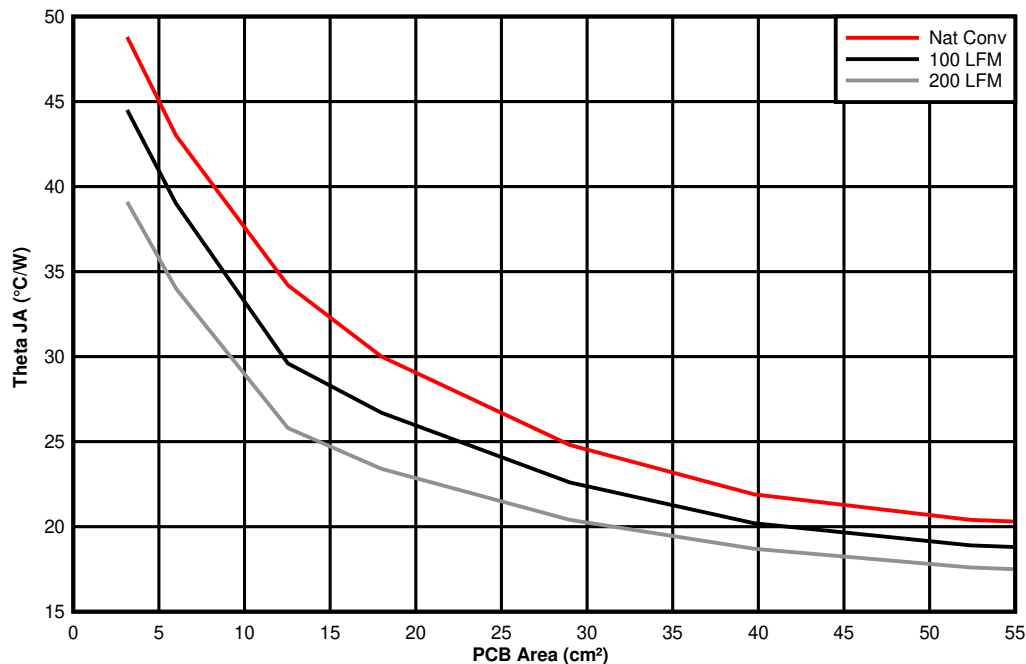

Figure 11-5. θ_{JA} vs PCB Area
The amount of PCB copper as well as airflow effects the thermal performance of the device. Figure 11-5 shows the effects of copper area and airflow on the junction-to-ambient thermal resistance ($R_{\theta JA}$) of the TPSM5601R5Hx. The junction-to-ambient thermal resistance versus PCB area is plotted for a 4-layer PCB.
3. Reference Figure 11-5 to determine the minimum required PCB area for the application conditions.